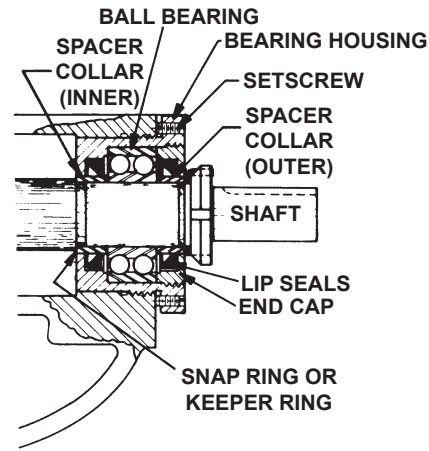

FIGURE 22
3. Examine the lip seal in the bearing housing and end cap. These lip seals are important to the assembly and should be replaced if not in first class condition. They are a grease seal for the ball bearing and also act as a shield to keep dirt and other abrasive particles from entering the bearing. When installing new lip seals, be sure they are assembled with the lips facing toward the shaft end. **See figure 22.**
**NOTE:** First replace the snap ring or keeper rings if furnished in your pump. **See figure 22.**
**NOTE:** If bearing housing has not been disassembled or has been pre-assembled skip items 3 and 4.